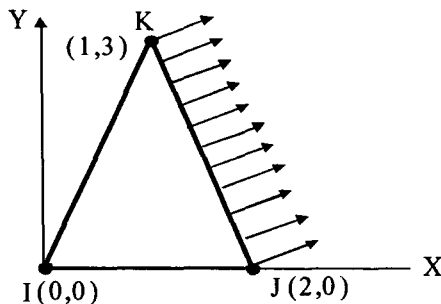

Fig. 4
- 7) For the plane stress element shown in Fig. 4, determine its element equation. The connectivity of the element is i-j-k. The element has a pressure of magnitude 2000 unit perpendicular to the side j-k and is subjected to a temperature rise of 30° . Take $E = 30E6$, $\nu = 0.25$, $t = 1.0$, $\alpha = 7E-6$. Symbols have their usual meaning and all the values are in consistent units. No derivation is necessary. [14]